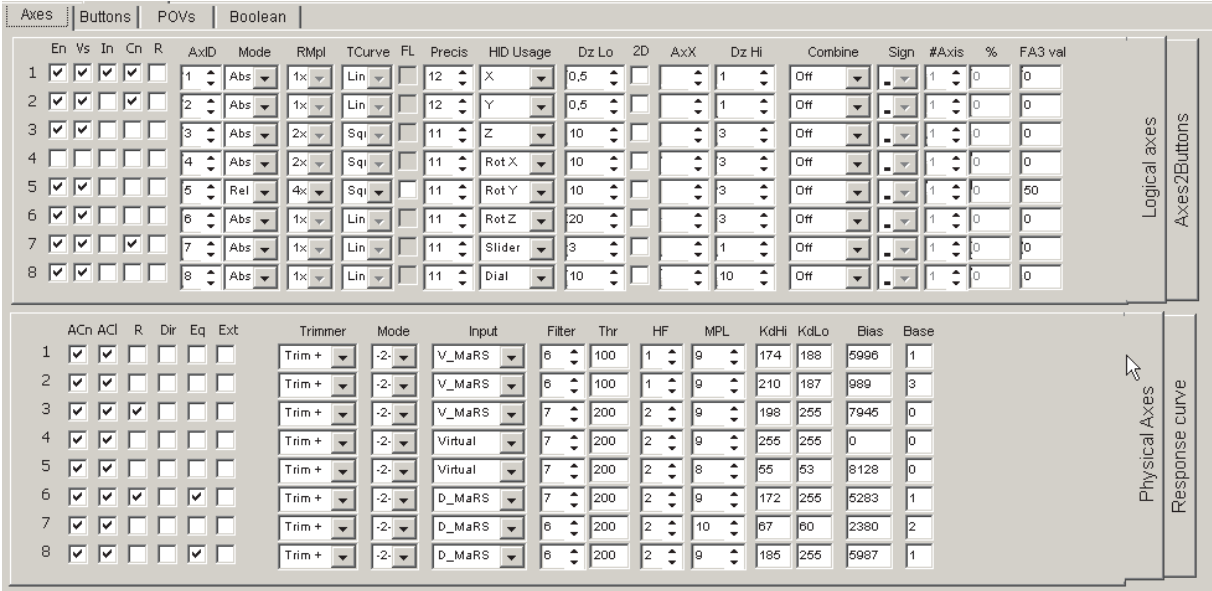

Fig. 3.1.
Open **Profile – Axes** tab (Fig. 3.1) to configure axes.
**Physical Axes** tab (Fig. 3.1) contains control items to configure physical parameters. See their description in Table 3.1.
Use control items of **Logical Axes** tab (Fig. 3.1 on p. 31), to configure logical axes parameters. See parameters description in Table 3.2.